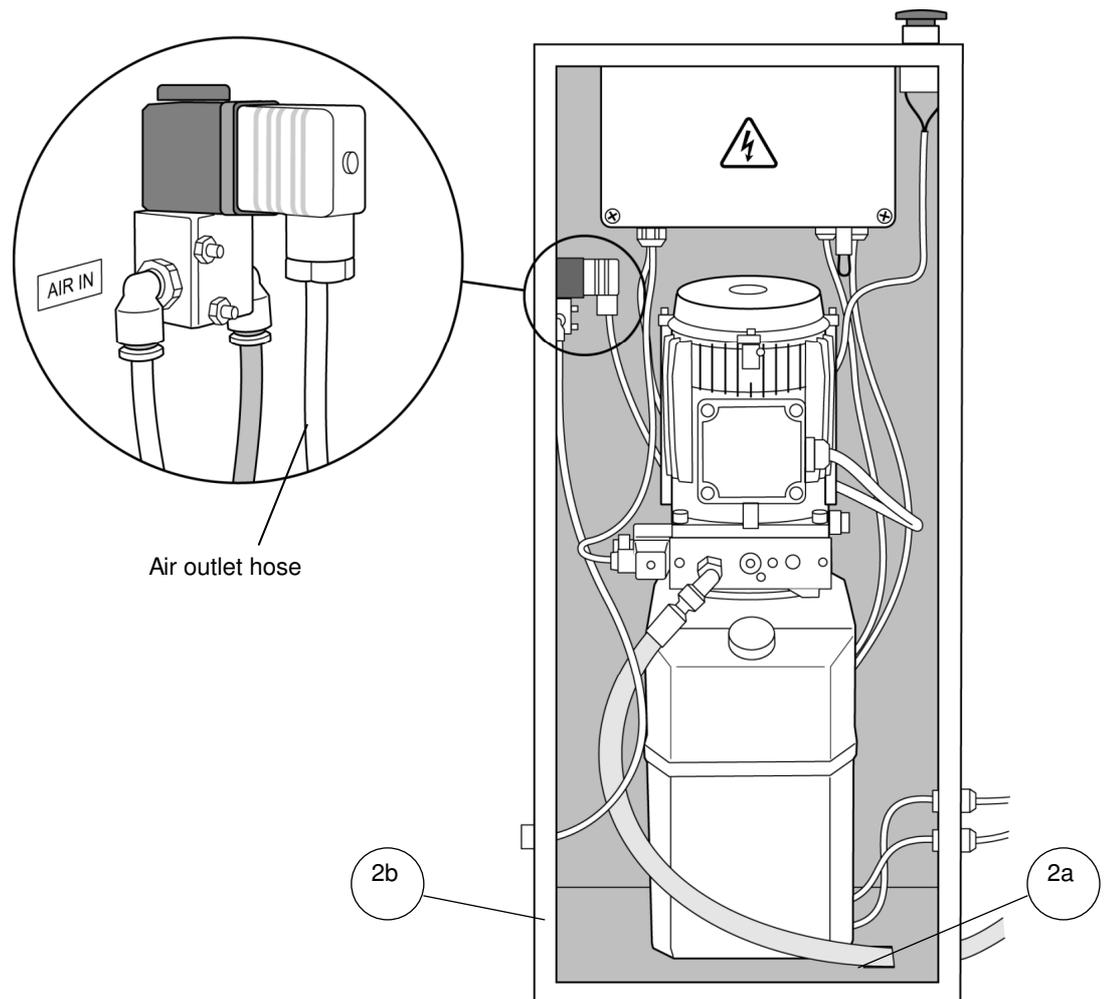

Figure 3.4 Connection of the pneumatic air outlet
- 1 a: Insert the hydraulic hose through the hole at the bottom of the Power Unit cabinet, see Figure 3.4.**
- 1** Connect the air inlet hose to the air inlet connector on the left hand side of the Power Unit cabinet, see Figure 3.4.